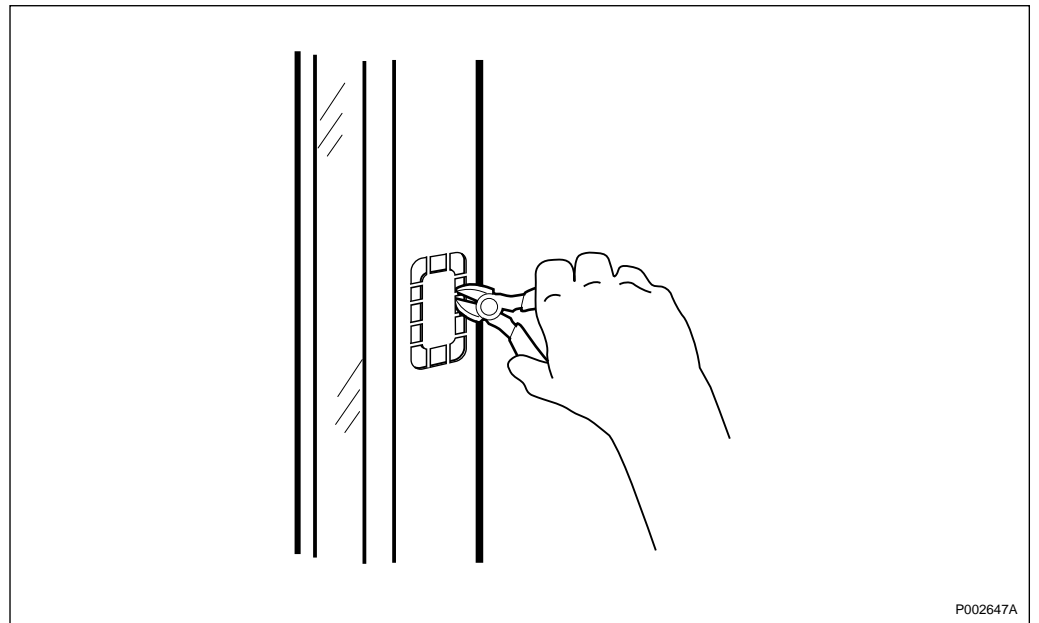

Figure 9 Opening Cable Holes
There are 11 places on each side of the cabinet that can be opened up for use as cable holes. See figure 9.
- Open holes with a sidecutter/cutting pliers as shown in figure 9.